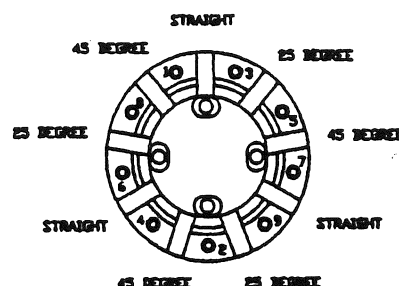

fig. 25
1. Teeth should be installed according to the pattern shown in Figure 25 above.
10. Before reinstalling the teeth, wire brush the internal cutter body and cap screws. Spray with light oil or WD40 and reassemble. Remember to reassemble teeth in the same order: 45 degree offset, 25 degree offset, and straight; repeated three times (Figure 25, pg. 13). Make sure to align the notch in the teeth with the slot in the cutter head body so the cover plate can be assembled properly.
11. Torque cap screws on cover plate (item 20, pg. 16) to 25 ft. lb. the first time around to insure even pressure on the teeth. Alternate tightening screws in a crisscross pattern. **Final tighten to 45 ft. lb.**